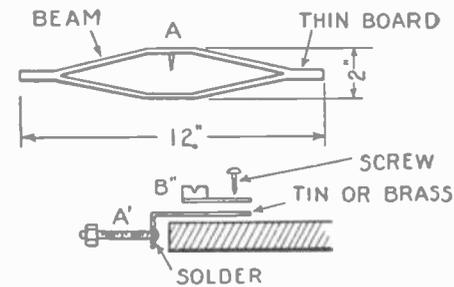
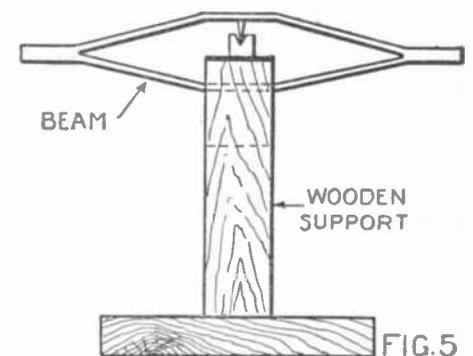

FIG. 2
FIG. 5
Now, the beam must be made. This is cut from a single piece of thin board to the shape and size shown in Fig. 2. On the upper side of each end is fastened a brass bearing and a balancing screw. Those parts must be of the same weight so that the beam will balance. The bearing (A) is made of a section of safety razor blades soldered to a thin strip of metal and screwed to the under side of the center of the beam, as shown. Fig. 5 shows how the beam sits on the bearing, the under side passing through the slot in the upright. Do not screw the main bearing to the upright until the last thing, as the beam cannot be removed once it is in place (see Fig. 5).